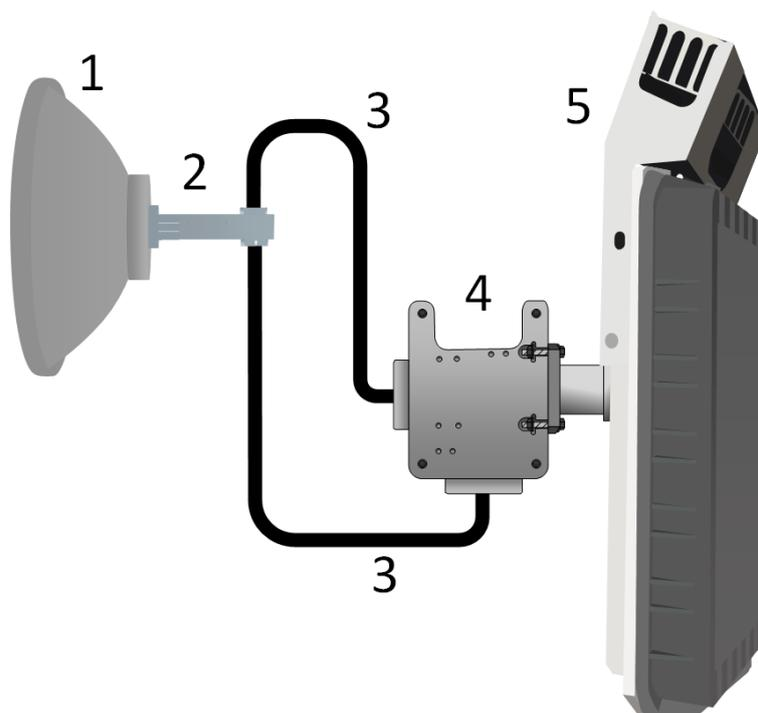

Figure 6-2 1+1 HSB connection diagram for Integra-X/X2
1+1 HSB scheme for Integra-X and Integra-X2 includes an antenna (1), a coupler (2), waveguides (3), a tower mountable OMT (4), and a single FODU (5). The 1+1 HSB connection diagram is shown in *Figure 6-2*.